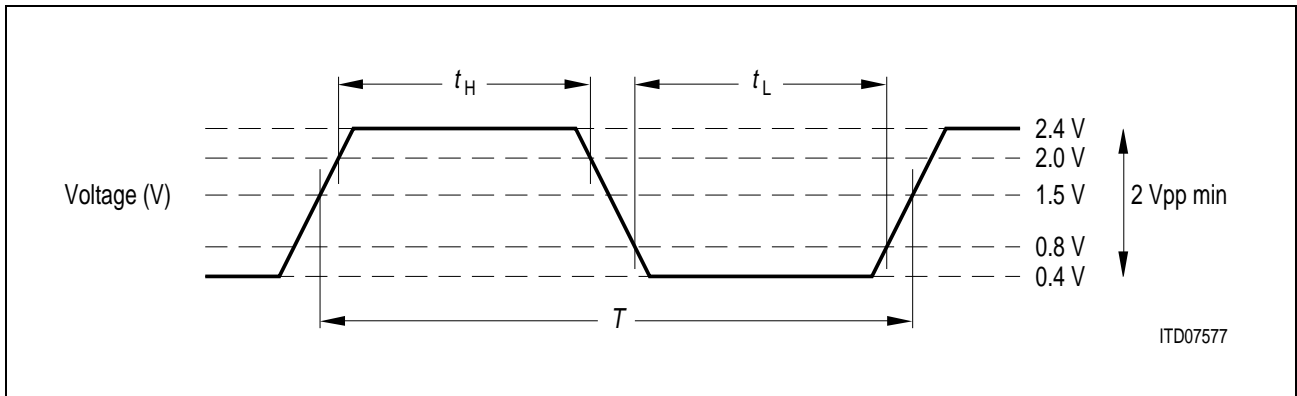

Figure 88
*Note: Rise and fall times are specified in terms of the edge rate measured in V/ns. This slew rate must be met across the minimum peak-to-peak portion of the clock waveform as shown in **Figure 88**.*